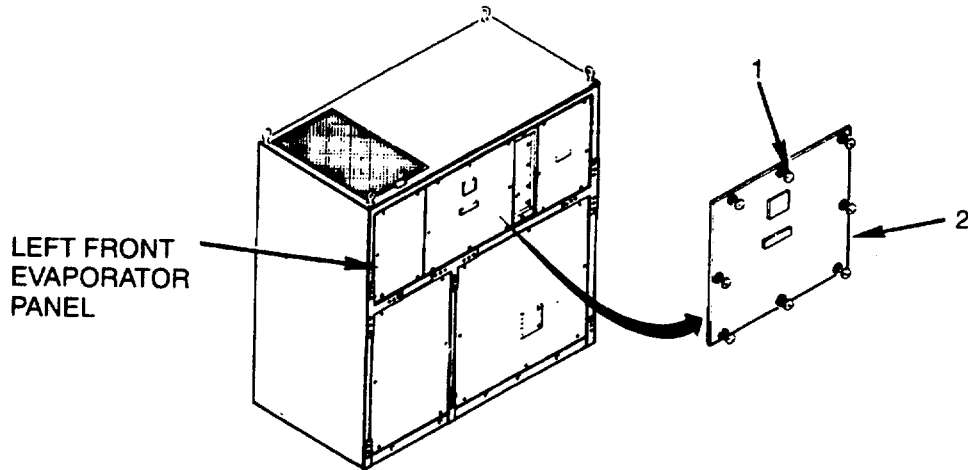

Figure 4-3. Center Front Evaporator Panel Removal
- a. Remove Center Front Evaporator Panel. Loosen eight captive fasteners (1) and remove panel (2) (see Figure 4-3).